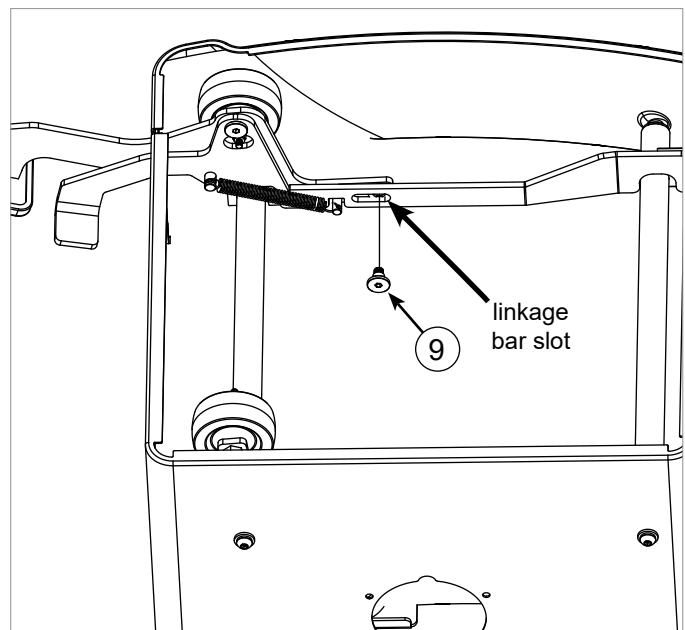

Fig. 15
15. You must now connect the pedal assembly to the linkage bar. There is a slot in the linkage bar near the pedal assembly and there is a plastic washer and threaded hole on the pedal assembly near the linkage bar. Pivot the linkage bar and the pedal assembly until the slot in the linkage bar aligns with the plastic washer and the threaded hole in the pedal assembly. Insert an M8 x 17.7 shoulder socket screw through the slot in the linkage bar and thread it into the hole in the pedal assembly (see Fig. 15). Fully tighten the screw with a 5 mm hex key.